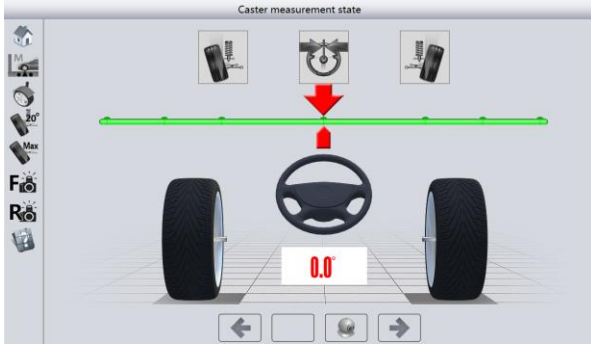

Fig.23
12 (20) degrees measurement is compulsory for caster measurement. Measure the different values and calculate caster by swinging steering wheel 12 (20) degrees to both left and right side. To skip caster measurement, click NEXT in the interface shown in Fig.23 to enter next screen.